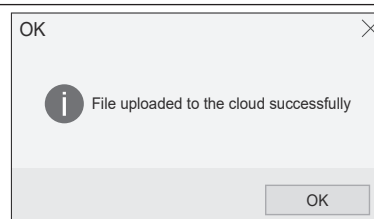

Fig. 112
8. After a brief delay the **.dat** file data will be uploaded to the cloud and an **'OK'** prompt window will appear, **Fig.112**.